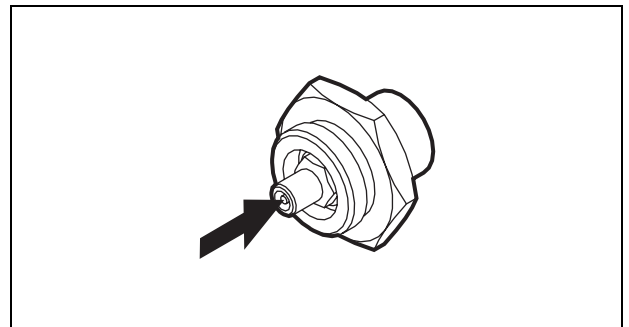

Fig. 32 Push the pin
3. Push the small pin in the center of the air nipple to evacuate the air pressure. *See Fig. 32.*